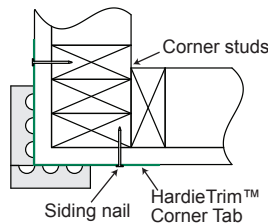

Figure 5
- For wood frame construction, attach the trim to the building with 6d siding nails fastened through the HardieTrim™ Corner Tabs. ET&F or equivalent fasteners may be used to attach the HardieTrim™ Corner Tabs to steel frame construction. (Figure 5)